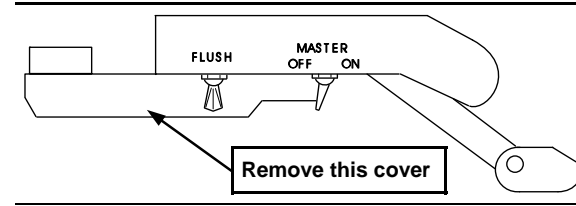

Figure 3
- B. 22" post and top mounted arm (Figure 3).